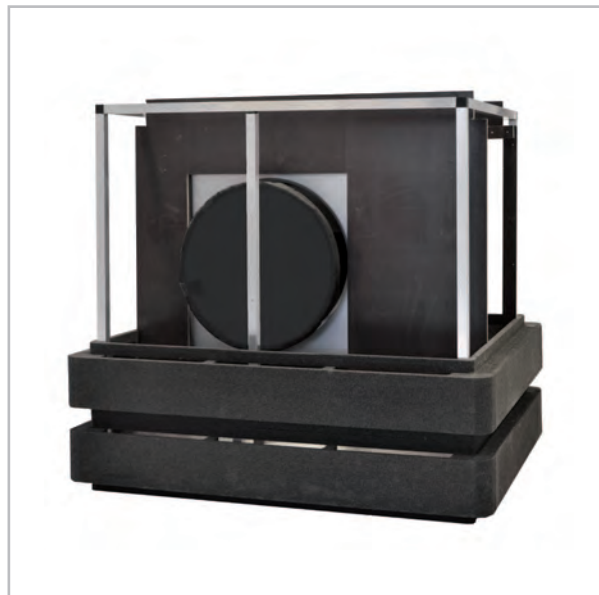

Fig. 37
- 28.** Use the M8 x 50 mm screws supplied to install the buffer. When installing, use the openings that are provided in the supports and install the buffer as shown in Fig. 37. Both buffers must be installed directly in front of the relevant fan on outdoor units that have two fans.